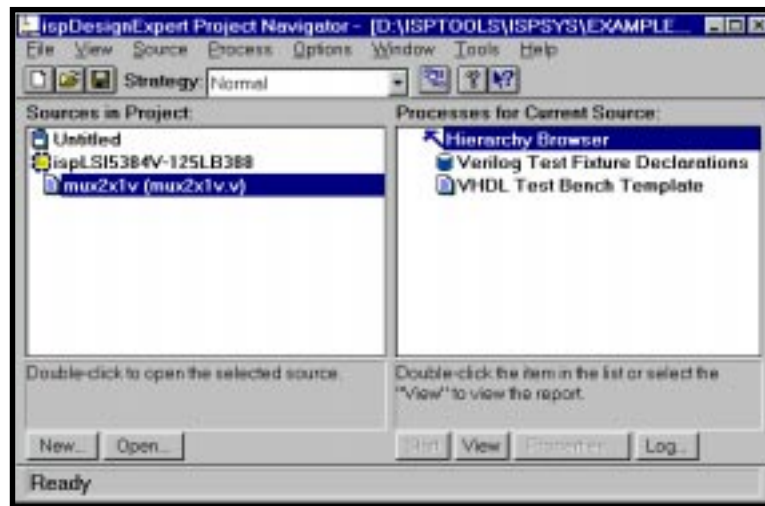

Figure 3-24. Project Navigator Window with `*.v` File Imported
3. The selected Verilog HDL file appears in the Sources in Project list of the Project Navigator as shown in Figure 3-24.